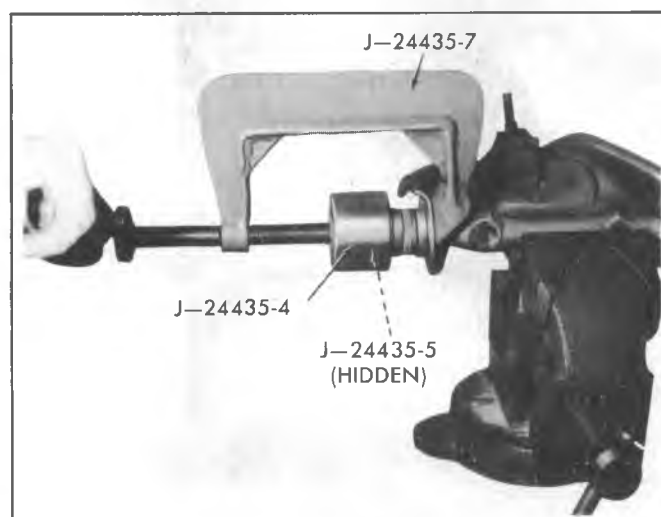

Fig. 3C-23--U.C.A. Rubber Bushing Installation
4. Loosen upper control arm ball stud in steering knuckle, using Tool J-23742 position as shown in Figure 3C-21. Remove the nut from the ball stud and raise upper arm to clear steering knuckle.
Removal (Fig. 3C-22)